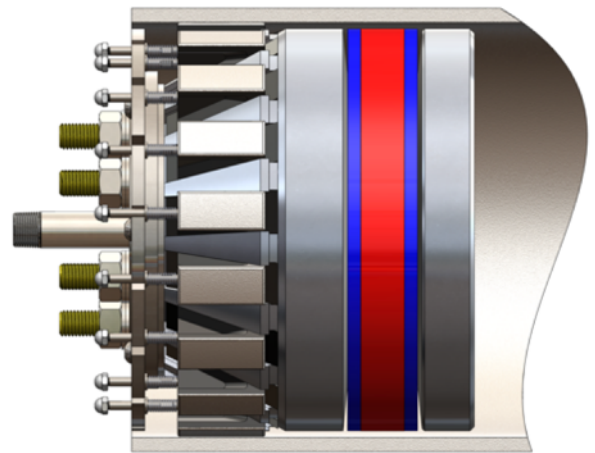

Figure 5: GripSafe ST ORB Auto-Locking Minimum Insertion Depth in a Sectioned Pipe
- 6.4 Insert the plug until the top of the **Spring Plate Hub(18)** is at least flush with the end of the pipe. See Figure 5.